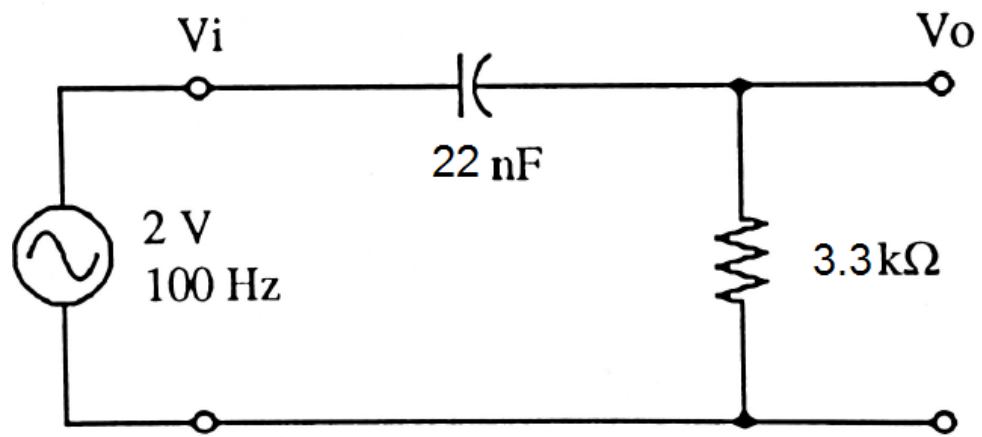

Figure 1 : High Pass RC Filter
1. What is the high-pass filter? Explain why the circuit in Figure 1 is a high-pass filter.
A high-pass filter is a circuit who rejects certain frequencies below the calculated cutoff frequency. Figure 1 is a high-pass filter because the output is from the $3.3k\Omega$ resistor. If the output would be from the $22nF$ capacitor, then the circuit would be a low-pass filter.
3. For the circuit of Figure 1, calculate magnitudes (in rms) for the quantities required in Table 1. Indicate the formula that you used to calculate.